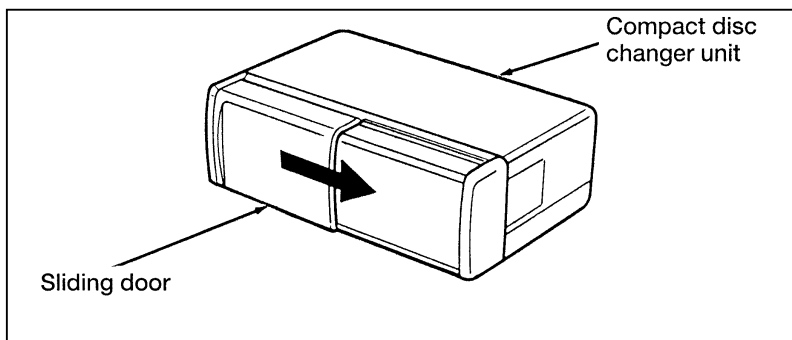

Figure 1
1. Open Compact Disc Changer unit by sliding door rearward (Figure 1).